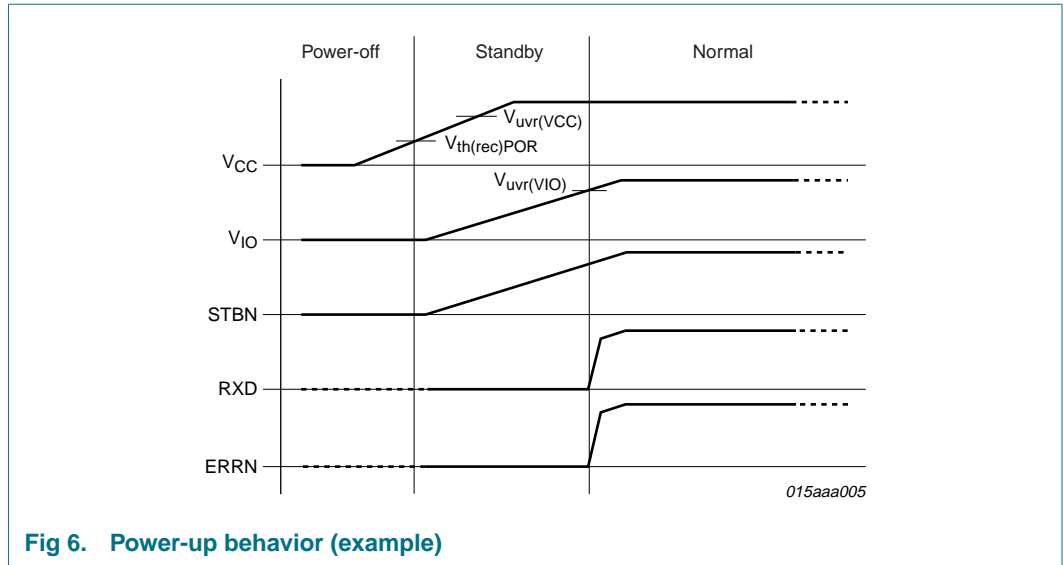
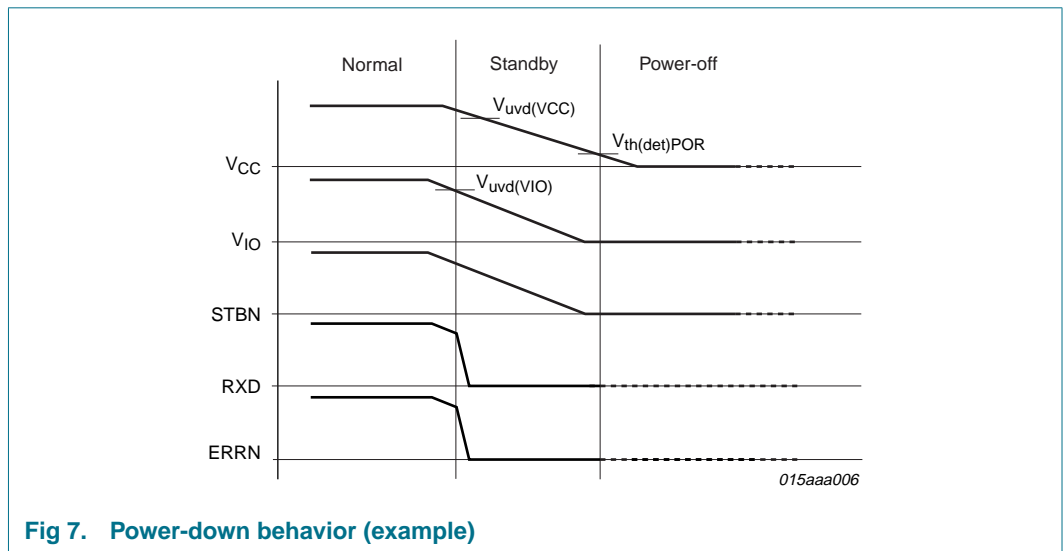

Fig 6. Power-up behavior (example)
Fig 7. Power-down behavior (example)
- [6]  $V_{CC} < V_{th(rec)POR}$  at power-up and  $V_{CC} < V_{th(det)POR}$  at power-down (see Figure 6 and Figure 7).
As an example, Figure 6 shows one possible power supply ramp-up scenario. The digital section of the TJA1082 is supplied by  $V_{CC}$ . The voltage on pin  $V_{CC}$  ramps up before the voltage on pin  $V_{IO}$ . As long as the voltage on  $V_{CC}$  remains below the power-on reset recovery threshold,  $V_{th(rec)POR}$ , the internal state machine is not active and the transceiver is totally passive, remaining in Power-off mode. As soon as the voltage crosses the  $V_{th(rec)POR}$  threshold, the internal state machine starts running, setting the PWON flag and switching the TJA1082 to Standby mode. This initializes the  $V_{CC}$  and  $V_{IO}$  under-voltage flags to the set state (since both  $V_{CC}$  and  $V_{IO}$  are actually in undervoltage state just after power-on).
The behavior of the TJA1082 during power-down is illustrated in Figure 7.